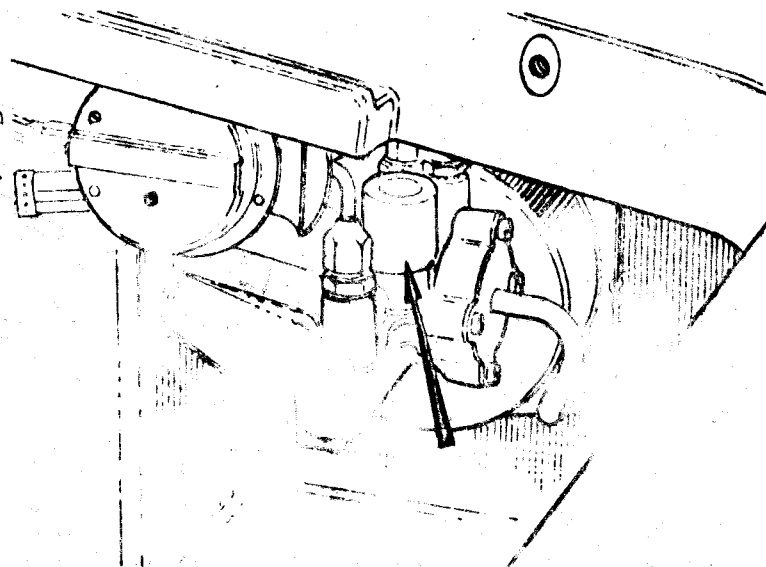

Fig. 1 - Servo Unit.
- The vacuum servo when fitted is situated in the left-hand side of the lower front luggage compartment (see Fig. 1).